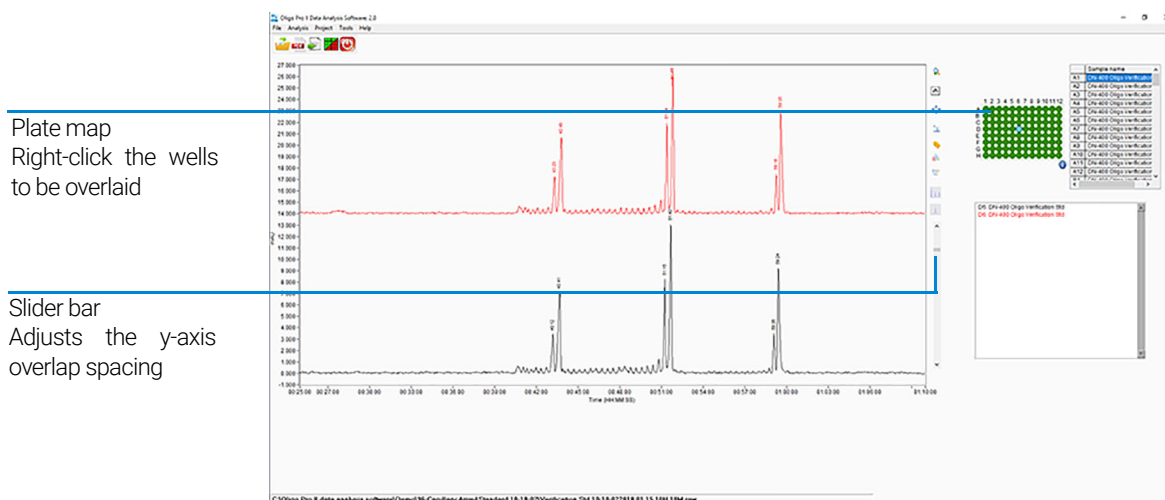

Figure 15 Overlay of multiple samples in the main screen
- 2 Use the slider bar of the Electropherogram trace to adjust overlap spacing (Figure 15).